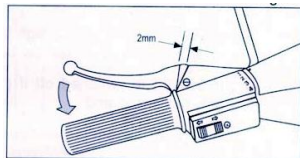

Fig. 23
- 3.1 **Clutch lever:** Press the clutch lever towards the handlebar to disengage the clutch. (Fig. 23).
- 1.2 Check for correct play in the clutch lever (Fig. 23) and make sure that it operates properly.